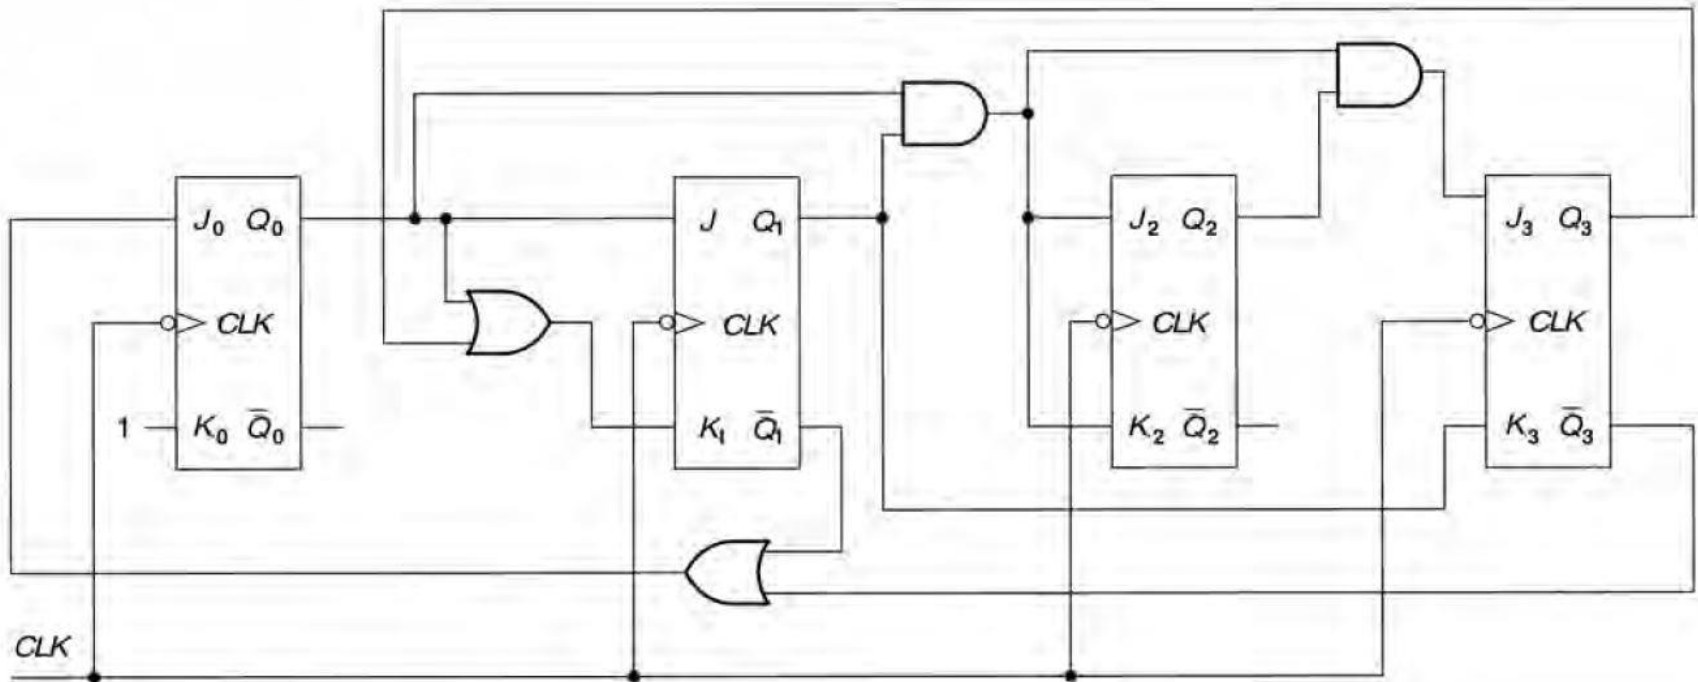

FIGURE 9.108 Problem 9.16: Counter
9.16 Analyze the operation of the counter shown in Figure 9.108. Predict the count sequence by determining the J and K inputs and resulting transitions for each counter output state. Draw the state diagram and the timing diagram. Assume that all flip-flop outputs are initially 0.